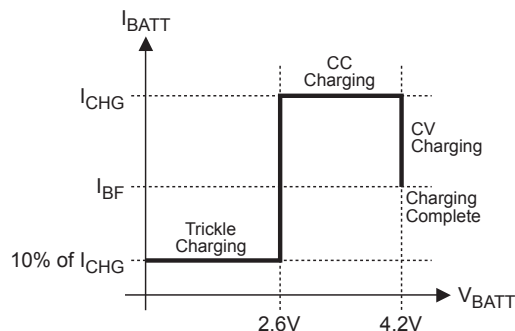
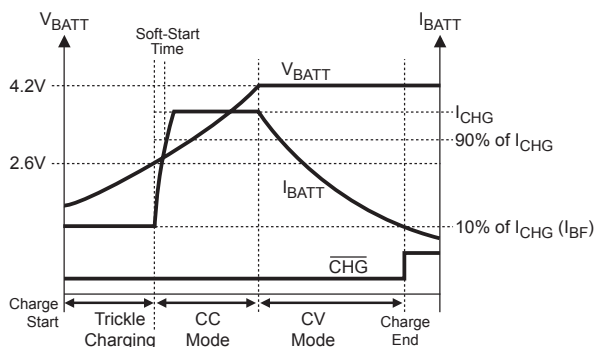

Figure 2—MP2602 Typical Charging Profile
Figure 3—MP2602 Typical Charging Procedure
Figure 2 below shows the typical charging profile for the MP2602. Figure 3 shows the typical charging procedure. For a fully depleted battery with a terminal voltage lower than 2.6V, the MP2602 will start with the trickle charge (preconditioning) at 10% of the programmed full charge current. After the battery voltage reaches 2.6V, the charger begins charging at the constant current of the programmed value (I_{CHG}). This is referred to as Constant Current (CC) mode. Once the battery voltage reaches 4.2V, the charger will operate in the constant voltage (CV) mode until the battery is fully charged. The charge current drops during CV mode, and the battery full indication is set when the charge current in the CV mode is reduced to the programmed full battery current (I_{BF}).